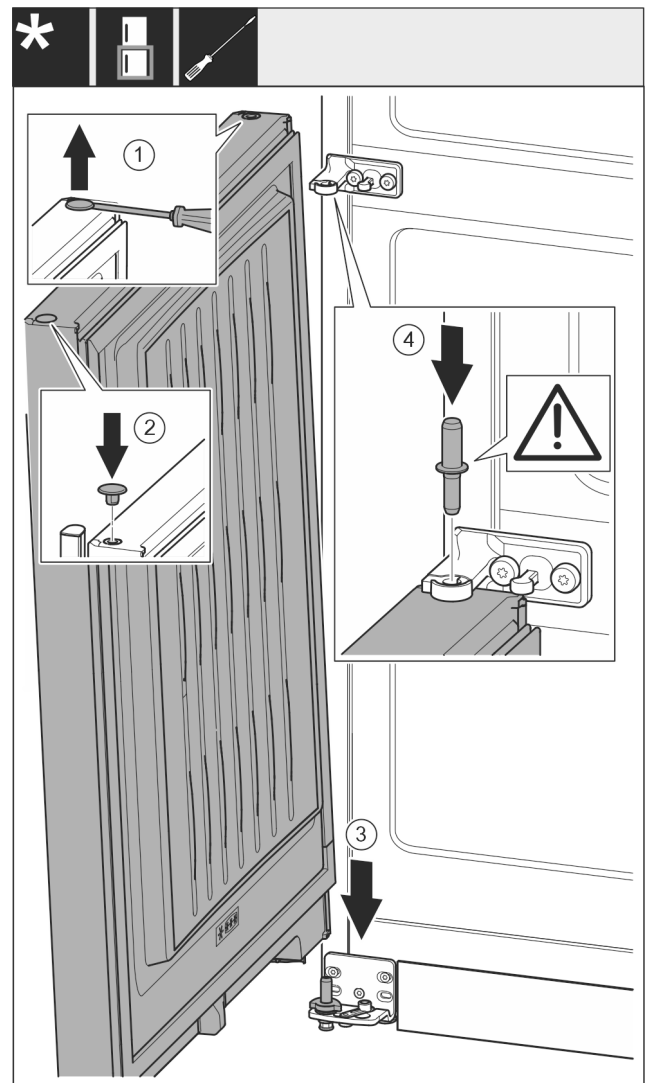

Fig. 22
- ▶ Carefully lift up the plugs with a slotted screwdriver and pull them out. *Fig. 22 (1)*
- ▶ Insert the plugs again on the other side of the door. *Fig. 22 (2)*
- ▶ Position the door from above onto the lower bearing pins. *Fig. 22 (3)*
- ▶ Insert the center bearing pin through the center bearing bracket into the bottom door. Make sure that the latching lug is pointing to the rear. *Fig. 22 (4)*